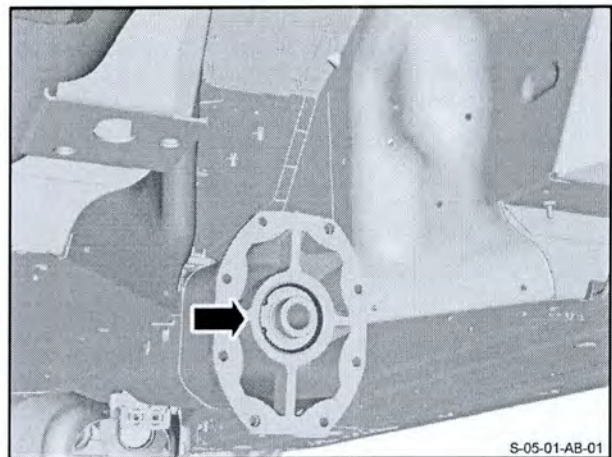

Figure 43
84. Remove the circlip that keeps the propeller shaft in the torque tube (refer Figure 43).